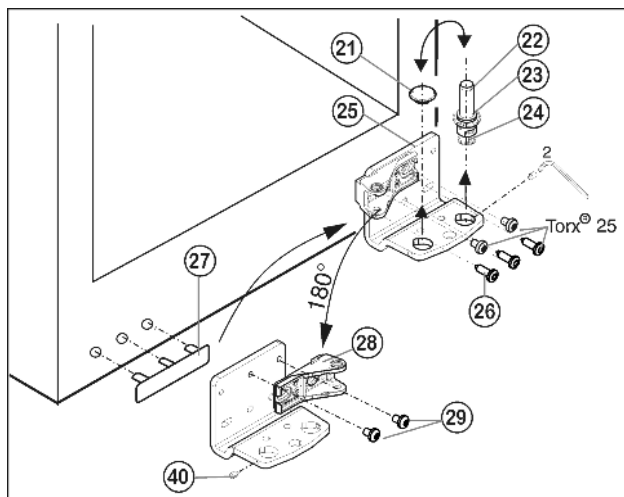

Fig. 7
- ▶ Using the accompanying Allen key, unscrew the threaded pin Fig. 7 (40) by about 1 turn.
- ▶ Turn and lift out the bearing pin Fig. 7 (22) together with washer Fig. 7 (23) and adjustable-height foot Fig. 7 (24).
- ▶ Lift off the stopper Fig. 7 (21).
- ▶ Unscrew the turn hinge Fig. 7 (25).
- ▶ Fully unscrew the threaded pin Fig. 7 (40) and screw it in on the opposite side, at the turn hinge, until it is flush outside with the turn hinge.
- ▶ Unscrew the bearing element Fig. 7 (28), turn it through 180° and screw it firmly back into place.
- ▶ Re-insert the stopper Fig. 7 (21) into the other hole.
- ▶ Carefully lift off the cover on the handle side Fig. 7 (27) and transfer it to the opposite side.
- ▶ Screw the turn hinge Fig. 7 (25) firmly into place on the new hinge side, possibly using a cordless screwdriver (with 4 Nm).
- ▶ Re-insert the bearing pin Fig. 7 (22) together with washer and adjustable-height foot.
- ▶ Tighten the threaded pin Fig. 7 (40).
- ▶ Place the door from above onto the lower bearing pin Fig. 7 (22).
- ▶ Align the door to the appliance housing by way of the two oblong holes in the bottom turn hinge Fig. 7 (25). To do so, unscrew the middle screw.